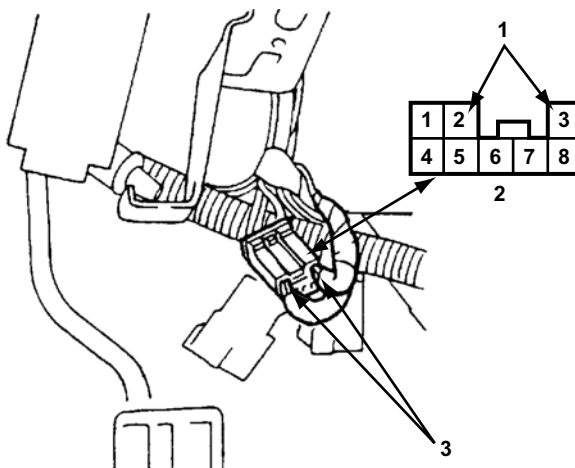

Figure 15-58 2000–04 Legacy and 2003–06 Baja Airbag (SRS) Diagnosis connector
- 2000–2004 Legacy/Outback Sedan and Wagon (Figure 15-58)
- 2003–2006 Baja (Figure 15-58)
1. With the key on and the engine off, install either diagnostic terminal into pin 2 or the airbag (SRS) diagnostic connector. The connector is located in the left lower dash panel area (Figure 15-58).